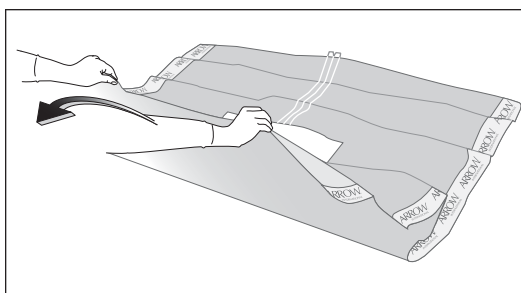

Figure 14
- Unfold towards hand (refer to Figure 14).